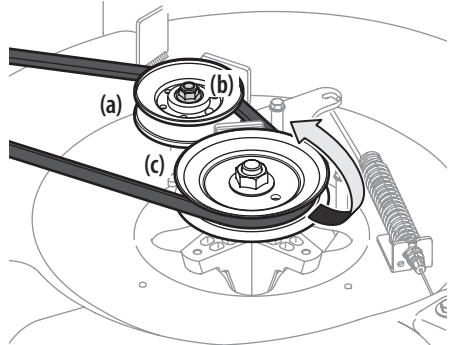

Figure 37
7. Loosen the idler pulley (24" decks only) (a) by loosening the flange lock nut (b) that secures it, enough to allow clearance for the belt to move past it and off. Remove the belt by working it off of the deck drive pulley (c) and idler pulley (a). See Figure 37.